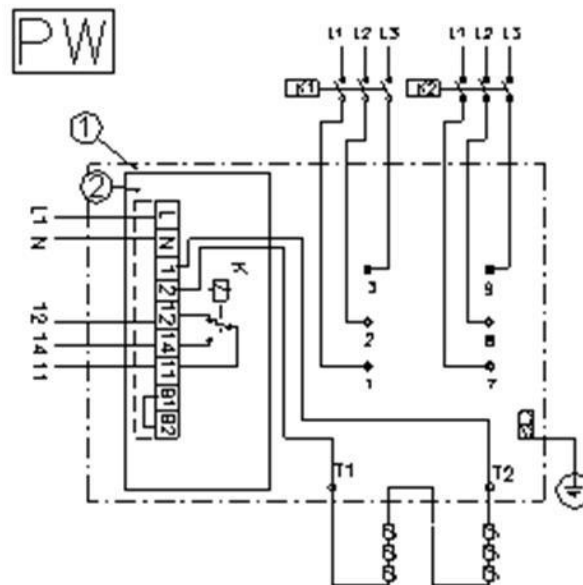

Figure 3 - PW connection
- ✓ Control the amount of refrigerated oil in the range of the horizontal position shown in Figure 3;